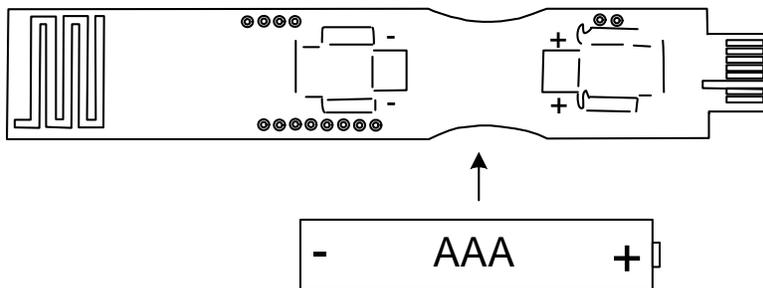

Figure 4. RF USB Node Battery In
5. Insert the battery into one of the node boards as shown in Figure 4.